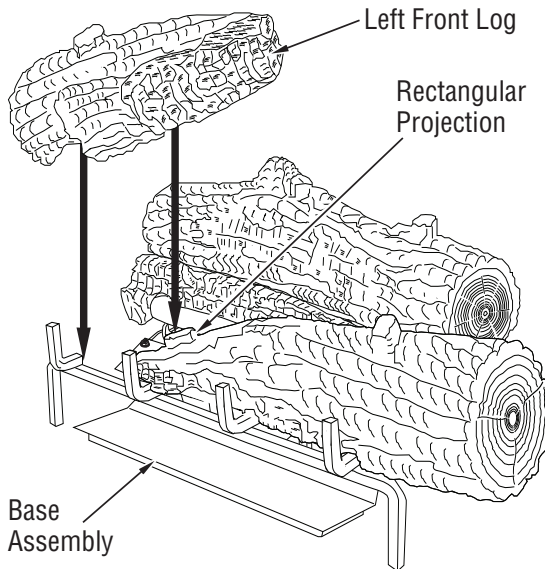

Figure 36 - Installing Left Front Log
4. Place the left front log onto the base and the right front log as shown in **Figure 36**. The